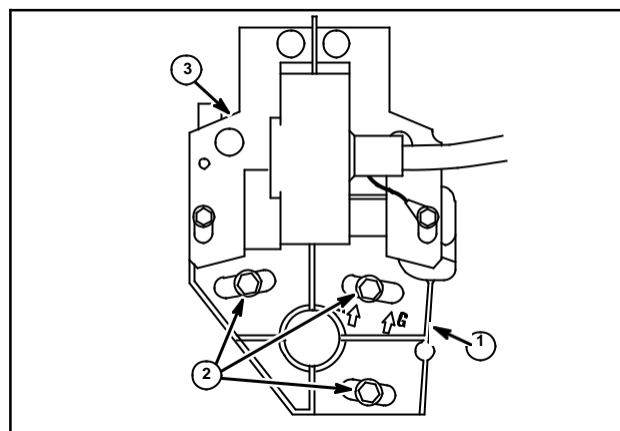

Fig. 17
Position adjustable ignition armature bracket (1) so mounting screws are centered (2) in ignition armature bracket slots (gasoline engines), Fig. 17. Ignition armature with Magnetron module assembly.